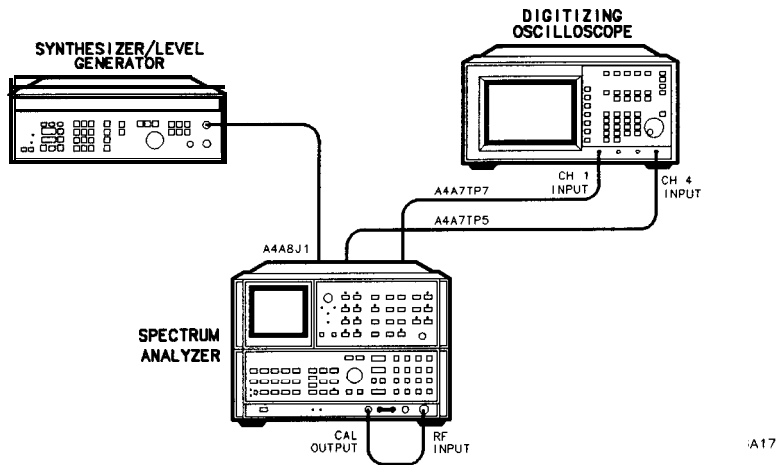

Figure 3-37. 3 MHz Bandwidth Filter Adjustments Setup
1. Position the spectrum analyzer upright as shown in Figure 3-37 and remove the IF-Display Section top cover.